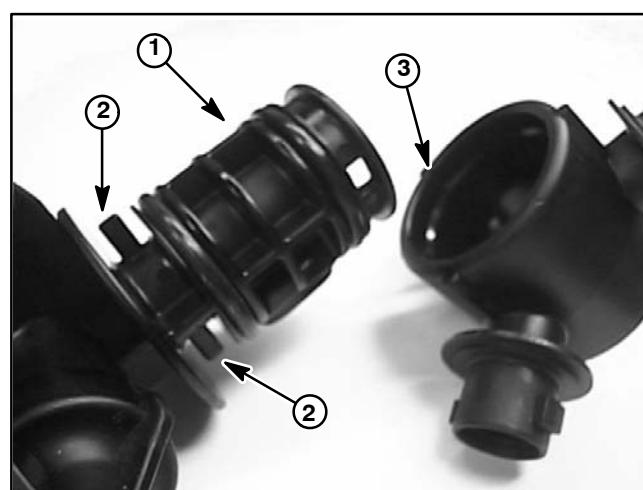

Figure 37
- A. The turret (item 8) end with slightly larger bore and detent grooves needs to be orientated toward detent posts on body (item 4) (Fig. 37).
- B. Make sure to align notch on plug (item 10) with groove in body (item 4) as plug is installed.
- C. Install e-clip (item 5) into body to secure assembly.